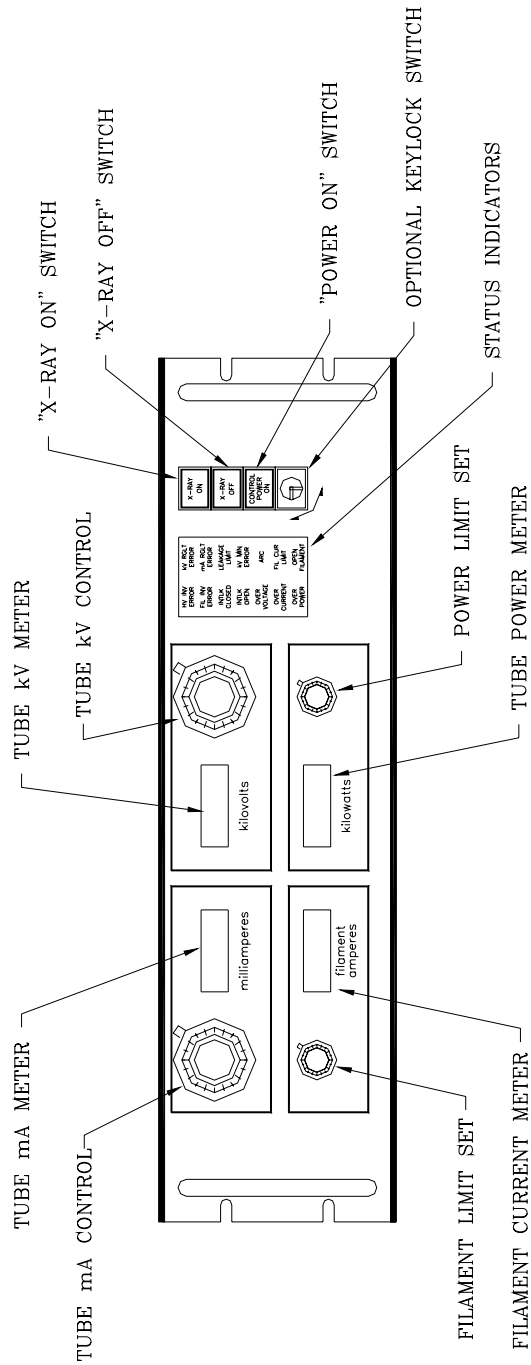

FIG. 3.1A DF3/FF3 FRONT PANEL LAYOUT
C) Proper Grounding Technique: The chassis of the high voltage power supply must be grounded to the local earth ground and also to the tube housing ground. See Figure 3.1A, 3.1B and 3.1C for typical operating setup.